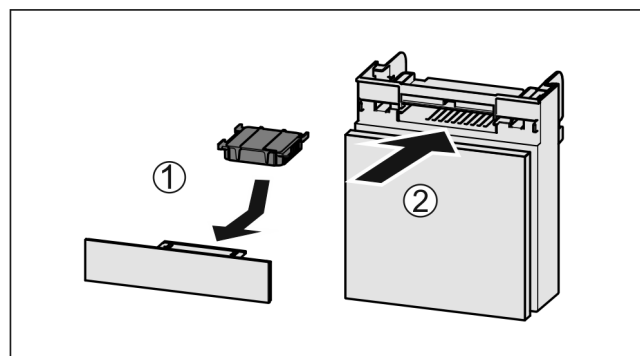

Fig. 127
- ▶ Insert the carbon filter as shown in the diagram Fig. 127 (1).
- ▶ Push the compartment in *Fig. 127 (2)*.